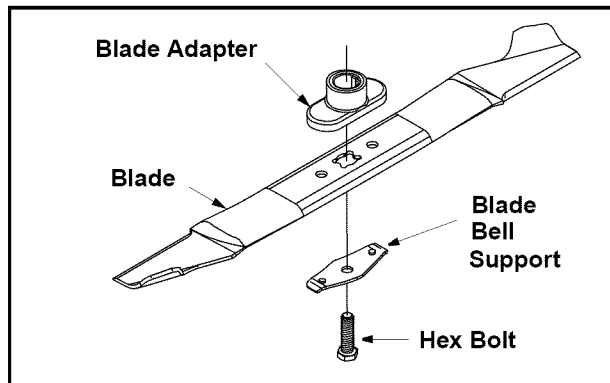

Figure 13
- Remove the bolt and blade support which hold the blade and adapter to the engine crankshaft. See Figure 13. Remove the blade and adapter from the crankshaft.
- Install the blade adapter on the crankshaft with the "star" away from the engine. Refer to Figure 13. Place the blade with the side marked bottom (or with part number) facing away from the adapter.